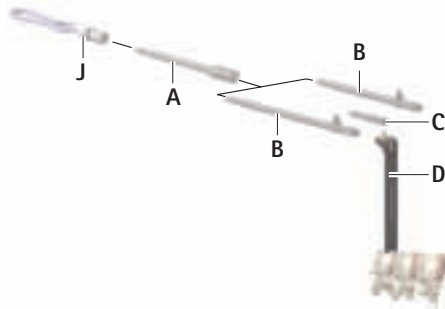

Fig. 2
- To extent the construct, install connecting piece with quick-release coupling **A** on the respective coupling, see Fig. 2.